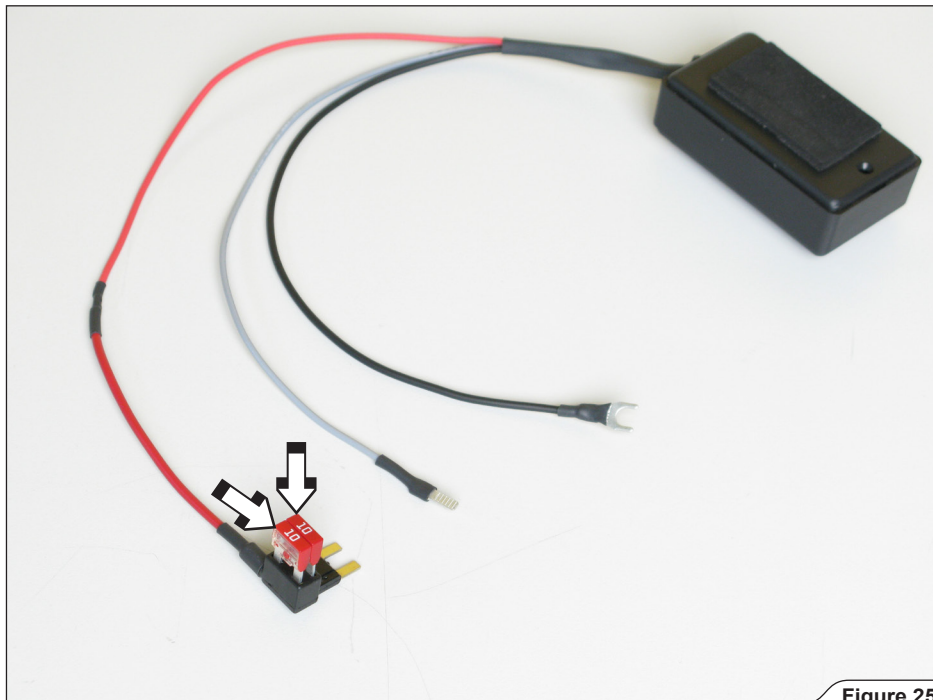

Figure 25
- Remove the passenger side floor mat and pull down the floorboard to access the fuse block. Remove the two marked fuses (upper: seat heater ; lower: exhaust flaps) and untighten the marked bolt (Figure 24). Displace both fuses into the Akrapovič fuse tab (Figure 25).
! CAUTION: in case of broken supplied fuse, use only 10A automotive mini-blade fuses (Figure 25)!